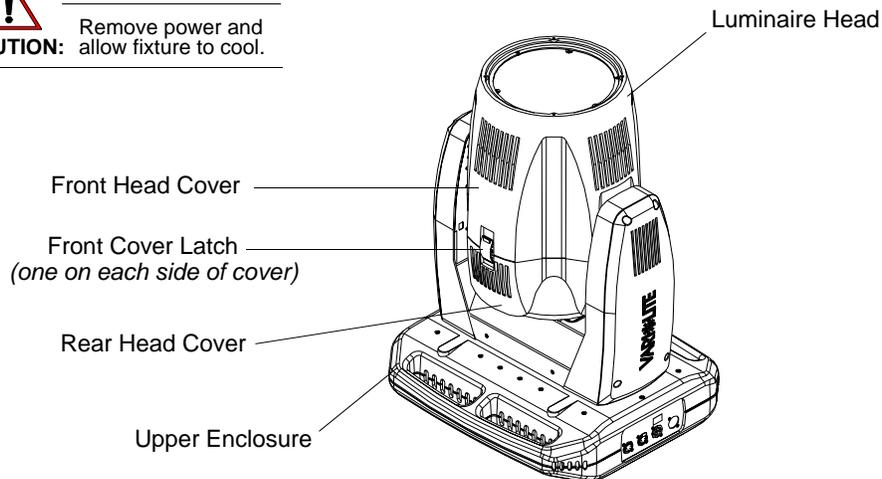

Figure 2-28: VLX Wash Luminaire
- Step 2. Carefully set luminaire on upper enclosure, rotate head as shown in Figure 2-28, and engage tilt lock.